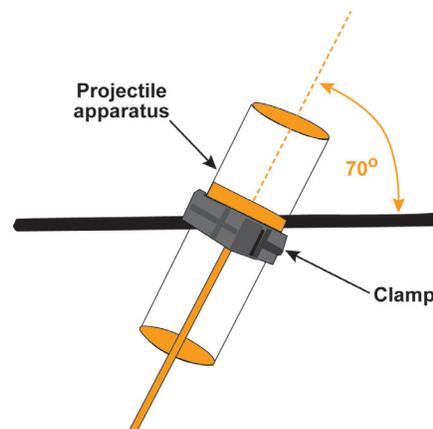

Figure 11
- 4. Adjust the projectile apparatus for a 70° angle to the long crossbar. See Figure 11.